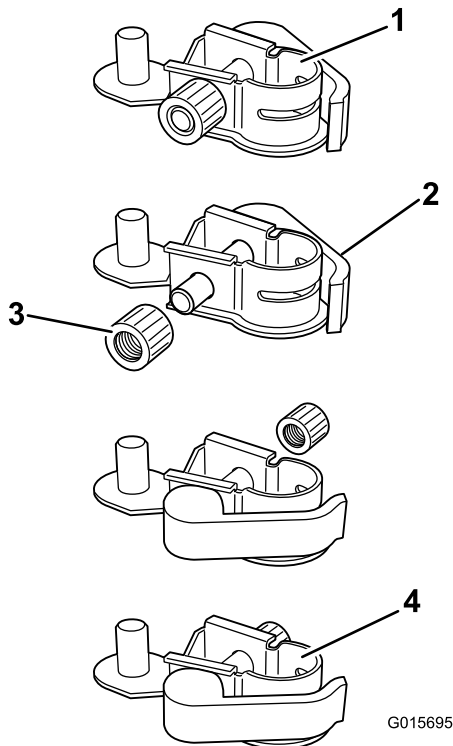

Figure 3
- Loosen and remove the jam nut on one of the connectors (Figure 3).
- Remove the clamp arm from the connector and reinsert from the opposing side (Figure 3).
- Install the jam nut removed previously to the clamp arm post and tighten just enough to retain the nut on the post (Figure 3).